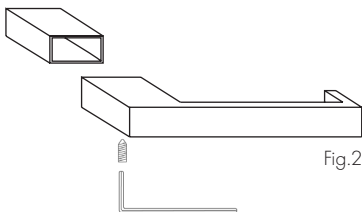

Fig.2
3. Place the TUALI toilet roll holder on the sleeve supplied and fix it hand-tight in the pilot hole using the grub screw and Allen key. (Fig. 2)